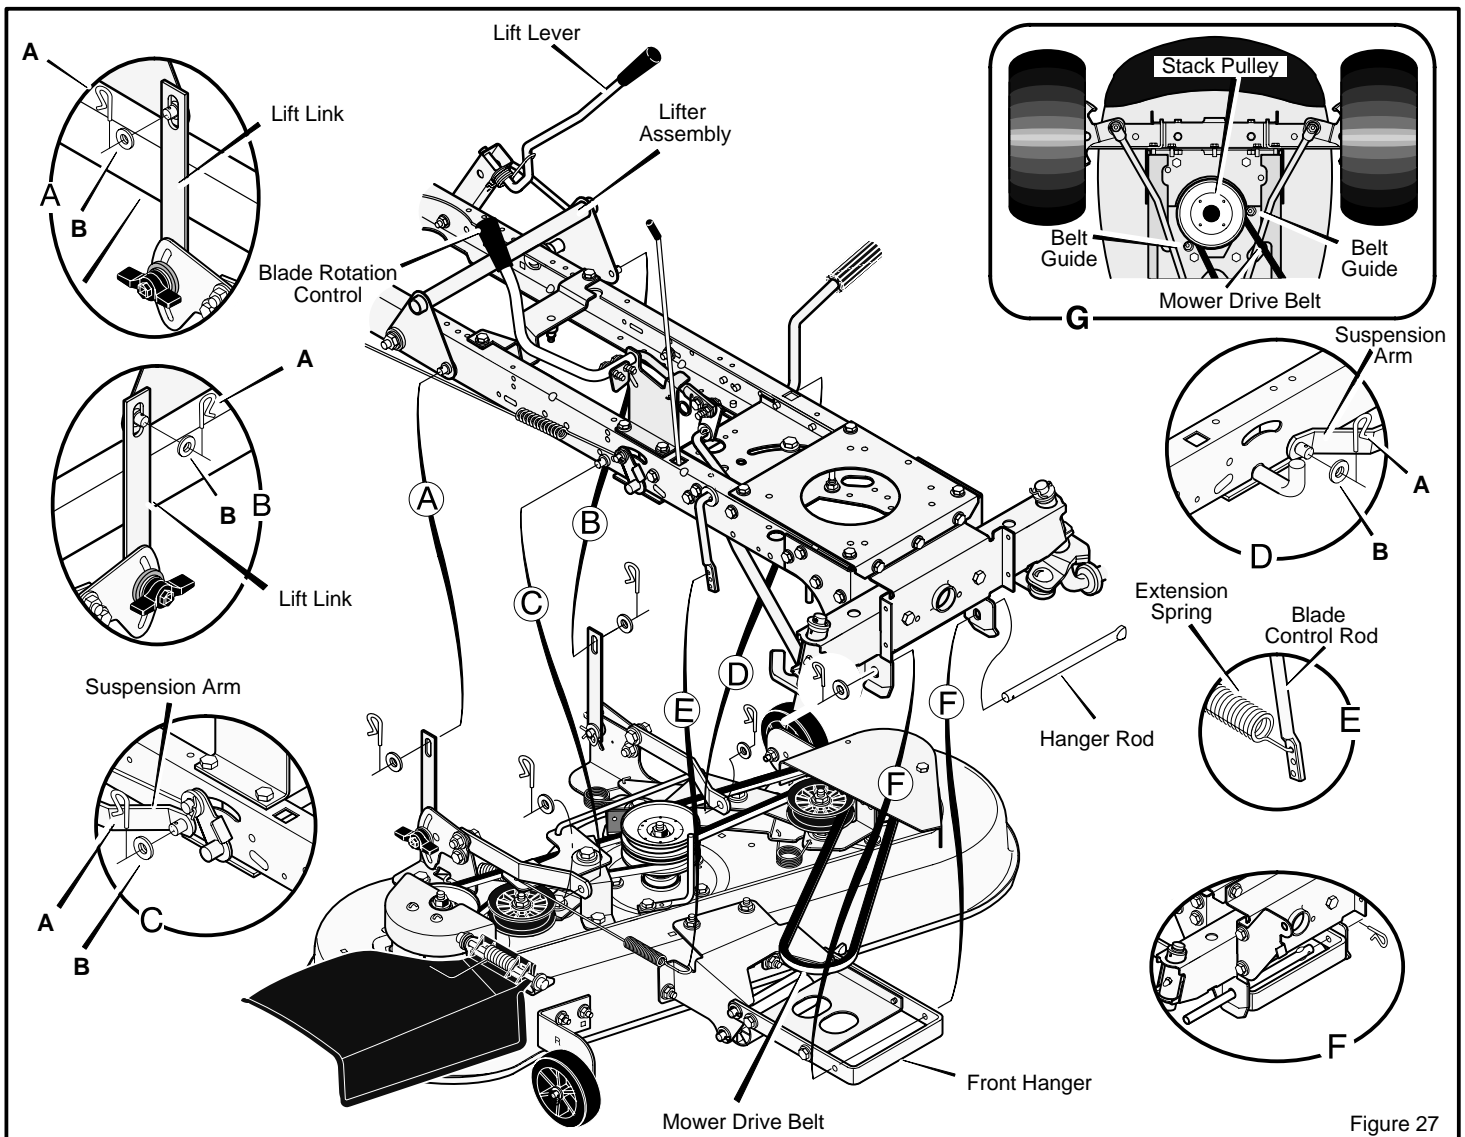

Figure 27
3. Remove the hair pins and the washers from the **suspension arms** (Figure 27). See illustrations "C" and "D".